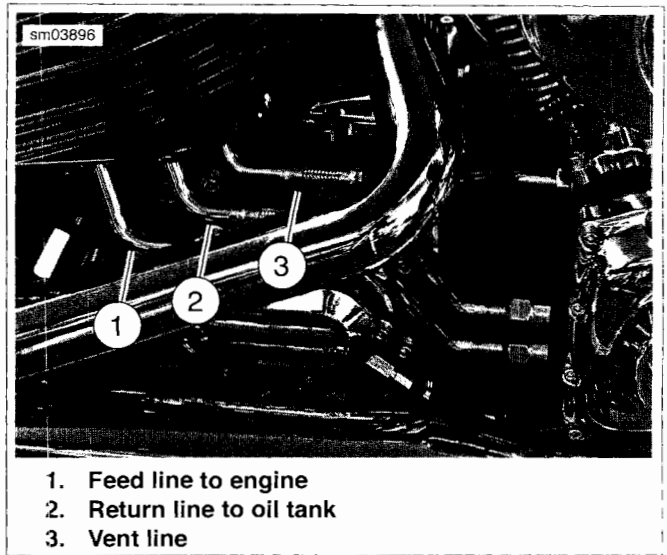

Figure 3-181. Oil Line Fittings/Retainers: FXCWC
- See Figure 3-181. Small retainers connect the vent line (3) to the oil tank and to the engine.
- Large retainers connect the feel line to engine (1) and return line to oil tank (2) to the oil tank and to the engine.